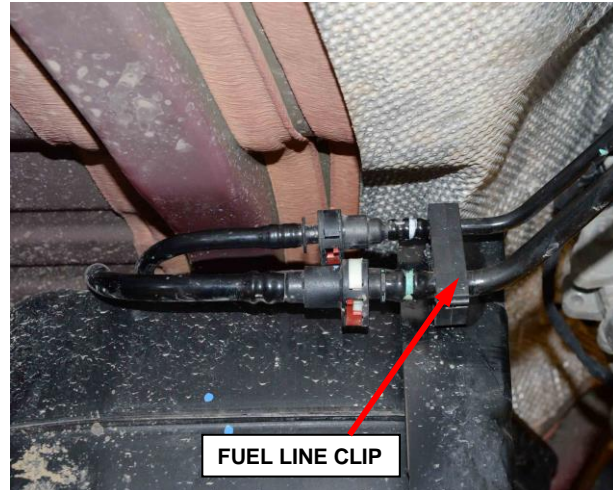

Figure 19 – Fuel Line Clip Location
30. Disconnect the fuel supply line clip at the tank (Figures 19 and 20).